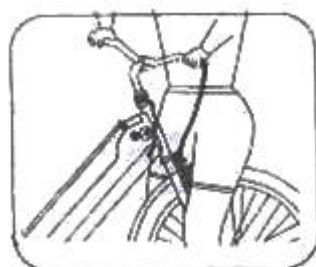

Figure FS2
- **Handle-stem and handle-bar:** Is stem aligned with front wheel? Walk to front of bike, put front wheel between your legs (Figure FS2.) Check if the wheel and stem are aligned straight. Try to twist the handle-bar left and right. The handlebar should not be loose and shouldn't move if moderate force is applied. Push the handle-bar down with force. The bar and stem shouldn't be loose. Make sure that all cables are not stretched and that there is enough slack for all cables when turning handle-bar. Make sure the wheel can be turned freely without entangling wires. The ends of the handle-bars need to be covered, usually by a handle-grip to protect from injuries. Replace if damaged. Apply front brake and move bike forward and backwards. Is fork loose? If it is loose the headset needs to be adjusted.